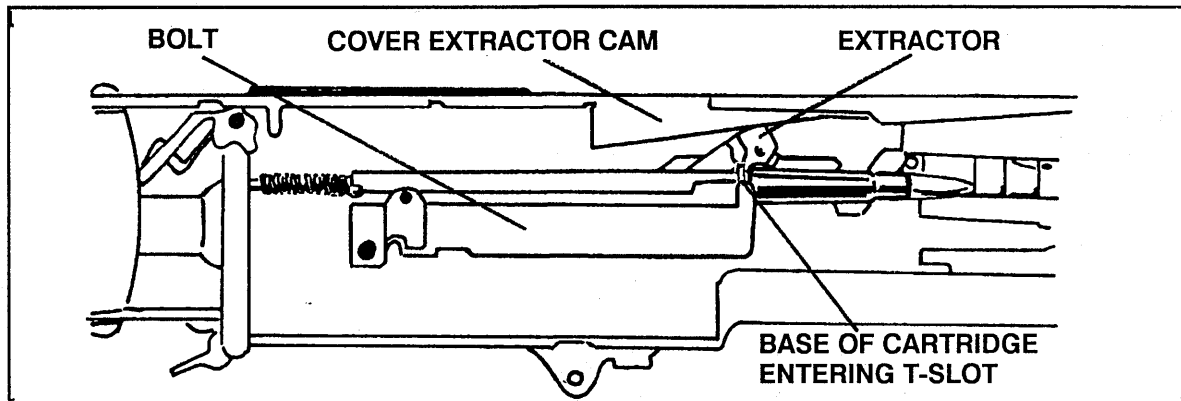

Figure 3-9. Feeding – cartridge entering the T-slot in the bolt.
(3) As the bolt then moves to the rear, the extractor will pull the cartridge with it, releasing it from the belt. As it moves to the rear, the extractor is forced down by the extractor cam, causing the cartridge to be moved into the T-slot in the bolt face, preparing the cartridge to be chambered (Figure 3-9, page 3-6). It is connected under the extractor switch on the side of the receiver until it is repositioned by the forward movement of the bolt, and pressure of the cover extractor spring forces it over the next round.